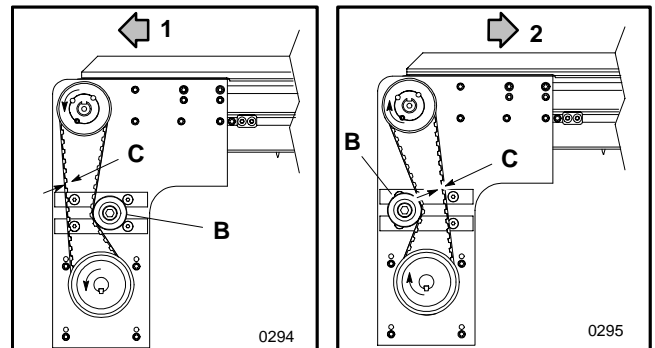
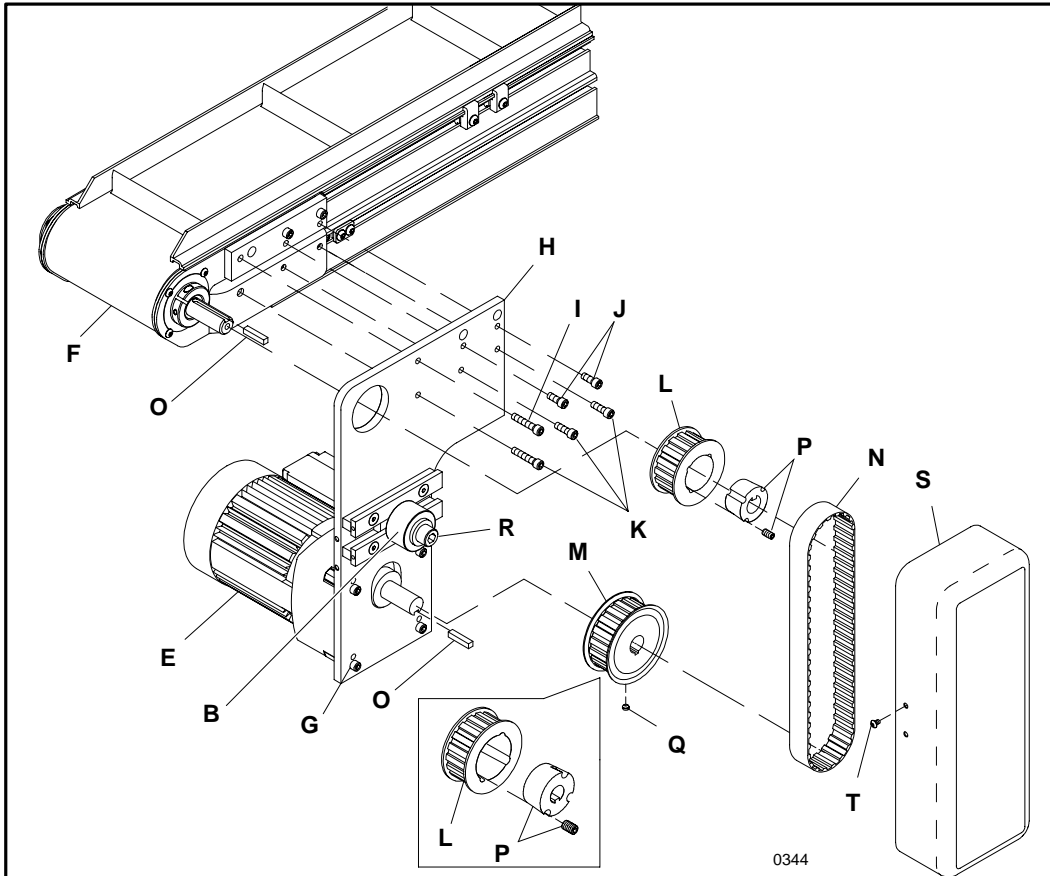

Figure 10: Bottom Drive Timing Belt Adjustment Detail
Figure 11: Bottom Drive Component Assembly Detail
1. Refer to Figure 11 and attach the gearmotor (E) and the motor mounting plate (H) to the conveyor (F) using one M6 x 30 mm socket head cap screw (I) in the top mounting hole of the mounting plate, two M6 x 16 mm socket head cap screws (J) in middle holes and three M6 x 20 mm socket head cap screws (K) in bottom holes.
The lower set (of 4) gearmotor mounting plate holes (G of of Figure 11) is only used when both gearmotor and conveyor shafts will have 16 tooth pulleys mounted to them. All other pulley combinations, use the upper set of mounting plate holes.
timing belt (N). Place a square key (O of Figure 11) into the keyway on the gearmotor and conveyor shafts. Install the pulleys so that the timing belt is centered on the belt tensioning roller assembly and the pulleys are in line with each other. Tighten the pulley set screws (Q) or Taper Lock® bushing screws (P), which fasten the pulleys to the shafts. Determine which direction the conveyor belt is traveling and position the tensioning roller assembly on slack side of the timing belt (Figure 10).
3. Adjust timing belt tension by loosening the M12 x 25 mm socket head cap screw (R) and sliding the belt tensioning roller assembly against the belt. Tension should be measured at mid-point (C of Figure 10) on the tension side of the timing belt. As a starting point for the tensioning process, there should be a 1/8" (3 mm) deflection with 6 lb (3kg or 26 N) of force.
5. Attach the bottom drive cover (S of Figure 11) using four M4 x 10 mm button head cap screws (T).